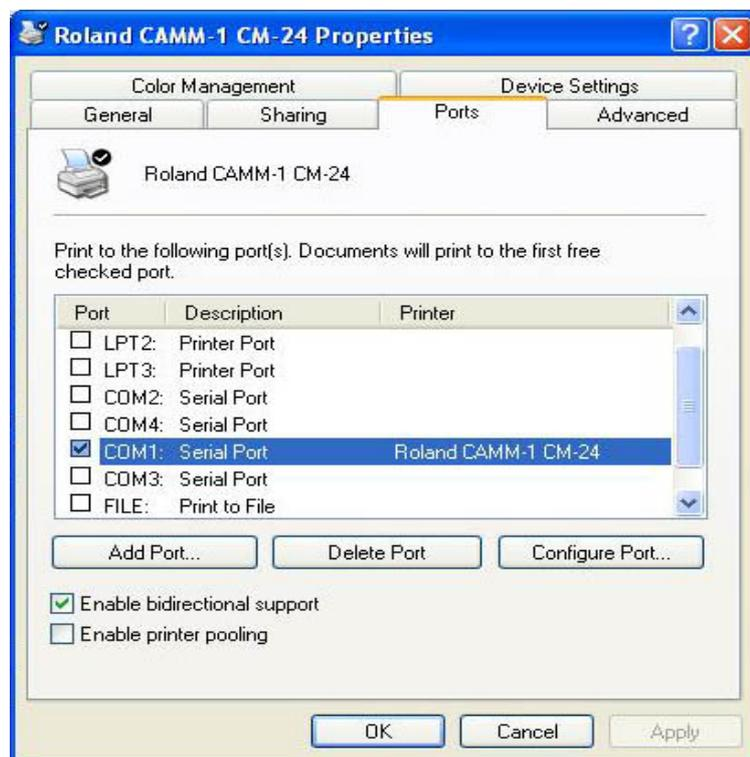

Figure 5
Step 4: After the driver is well installed. Click the right button on the driver icon and select Properties, a dialogue will pop up (shown as Figure 5).